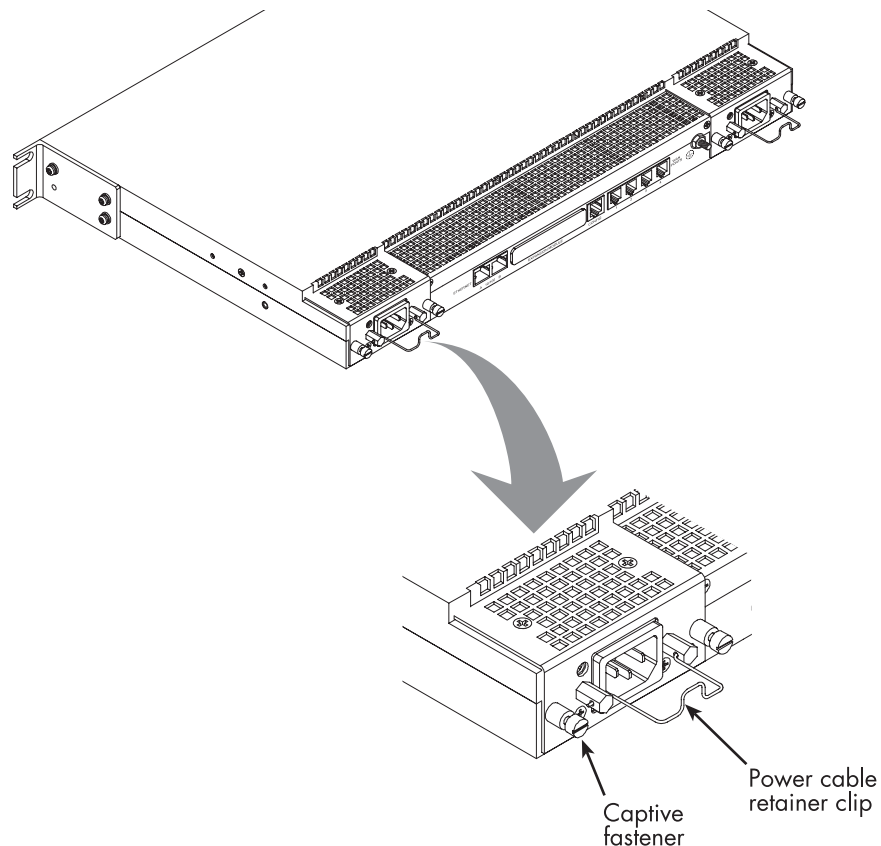

Figure 47. Captive fasteners and power cable retainer clip locations
1. At the malfunctioning power supply, rotate the power cable retaining clip (see figure 47) so it is no longer attached to the power cord.
3. Using a flat-tip screwdriver, loosen the two captive fasteners (see figure 47) enough so they are no longer connecting the power supply to the RAS chassis.